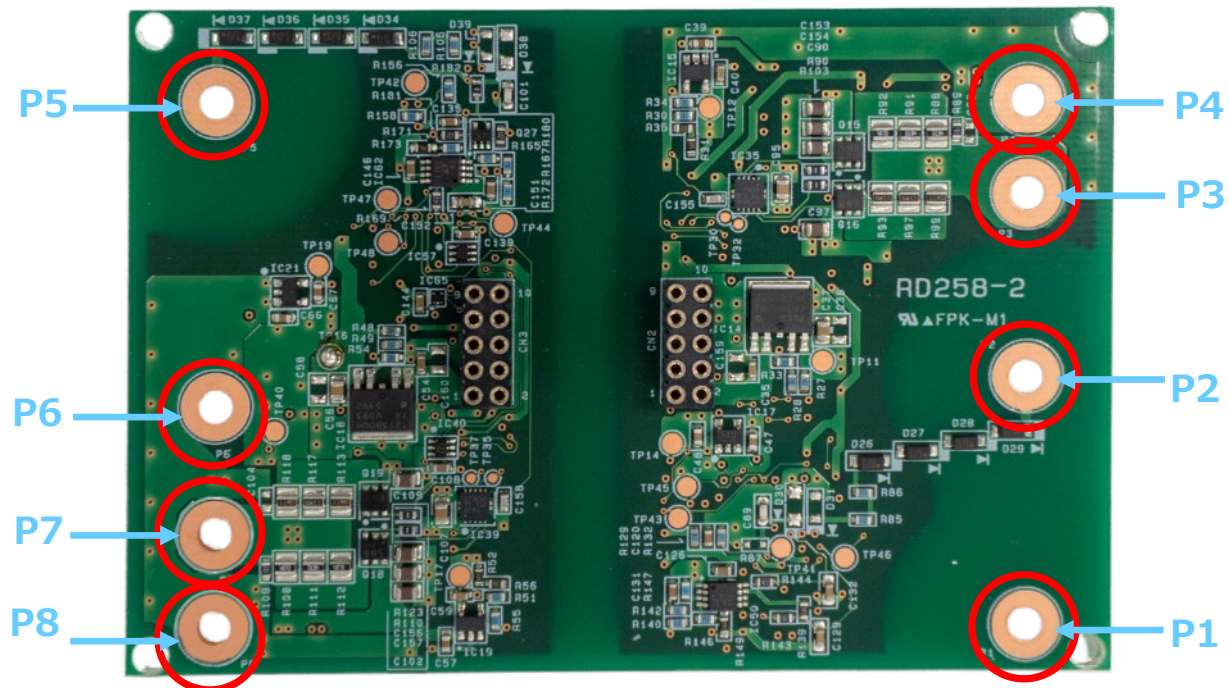

Figure 4.2 Through-Hole Layout on PCB
- Place this design on the SiC MOSFET module and confirm that the eight signal terminals aligns with the terminals of this design (see the red circles in Figure 4.2).